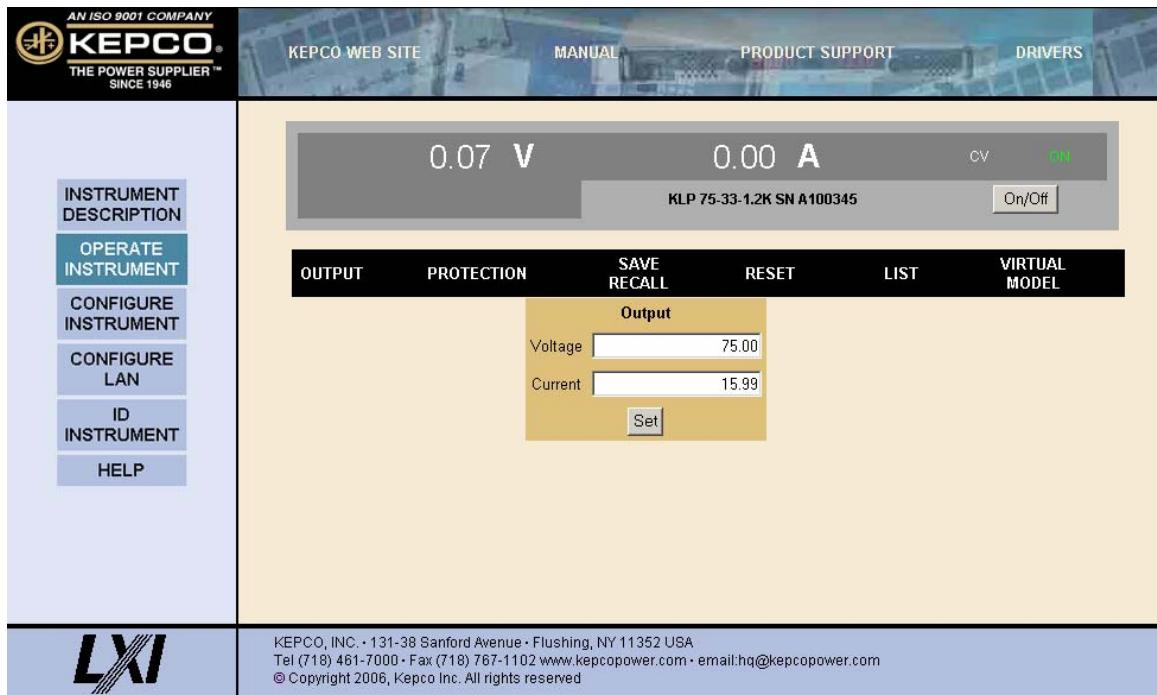
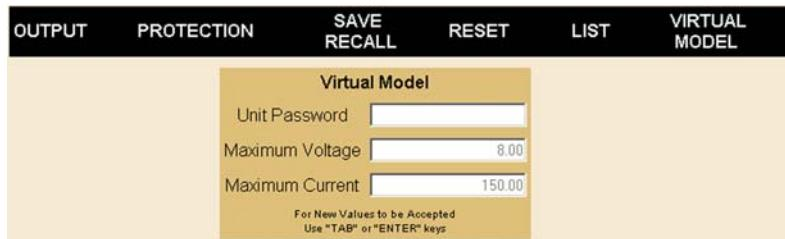

FIGURE 3-8. WEB INTERFACE OPERATE INSTRUMENT PAGE
FIGURE 3-14. VIRTUAL MODEL DIALOG BOX
The Output dialog box opens when the OPERATE INSTRUMENT page is first opened, or when **OUTPUT** is clicked (see Figure 3-8). To set output voltage or current, enter the values and click **Set**. Voltage and current settings are not allowed to exceed either a) the virtual model setting or b) 80% of the protection value. Attempts to set voltage or current beyond these limits will not be accepted. To turn the output on or off, click the ON/OFF button within the simulated front panel.
- **To save the active settings:** Enter the desired location (1 to 40) in the **LOCATION** box and click **Save State** button to save the active settings. Only the parameters shown in Figure 3-8 can be saved.
Refer to PAR. 3.2.8 for details about what Virtual Model means for KLP and how the virtual model affects other parameters. Click **VIRTUAL MODEL** (Figure 3-8) to open the Virtual Model dialog box (Figure 3-14). The current virtual model settings (gray) are displayed. To change the settings enter the Unit Password (see PAR. 3.2.7) and press ENTER key on the computer keyboard. After the password is accepted, the Unit Password field is inaccessible (gray) and the Maximum Voltage and Maximum Current fields can be changed. Enter either maximum voltage or maximum current; the other field will be filled in automatically for a maximum of 1200 Watts, then press ENTER key; all fields are gray for a second or two while the power supply accepts each entry. The Password field is reset after leaving the Virtual Model dialog box.